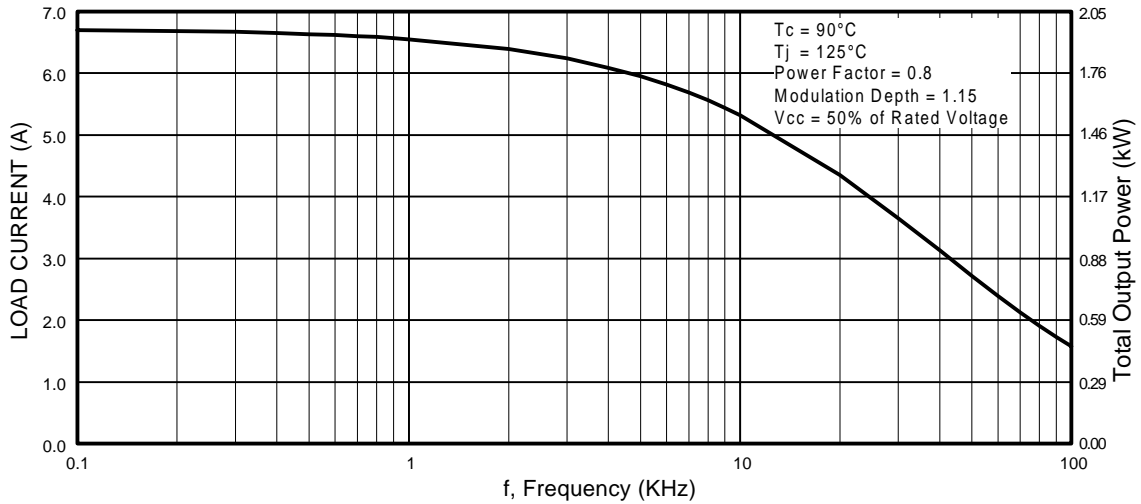

Fig. 1 - Typical Load Current vs. Frequency
See Fig. 1 for Current vs. Frequency curve
4.3 A_{RMS} per phase (1.27 kW total) with T_C = 90°C, T_J = 125°C, Supply Voltage 360Vdc, Power Factor 0.8, Modulation Depth 115% (See Figure 1)